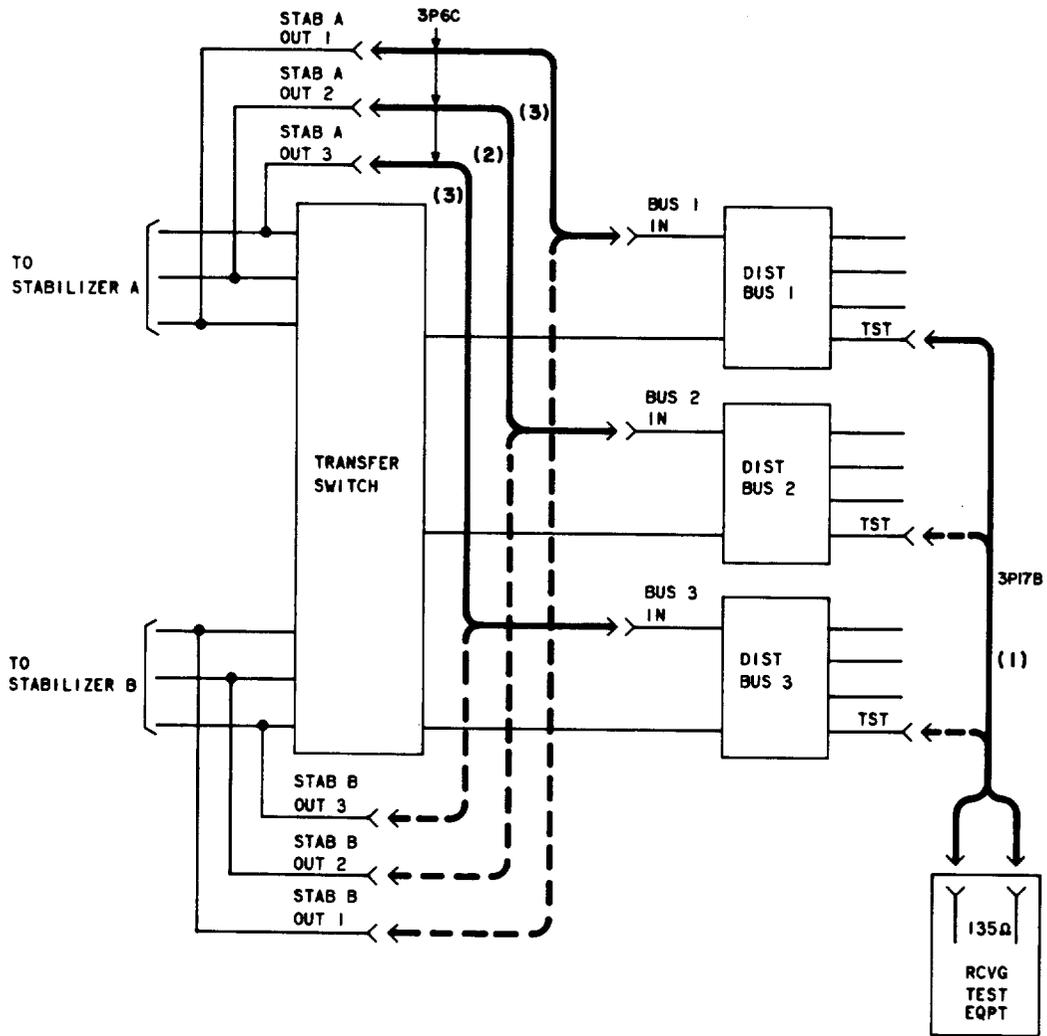

Fig. 4—Transfer Switch Replacement or Failure—Patching Procedures
3	Connect the RTE to the TST jack on the first J68909B distribution bus [patch (1), Fig. 4].
4	Make patches 1, 2, and 3 in Fig. 4 on the J68911B independent 512-kHz pilot supply. Note: Depending upon equipment requirements, the BUS 2 and BUS 3 positions may not be equipped. Patches 2 and 3 are required for all equipment requirements to insure proper termination of the stabilizer when the transfer switch is removed.
6	Verify that the RTE measures a 512-kHz signal at each distribution bus TST jack [patch (1), Fig. 4]. Requirement: -30.0 ± 0.5 dBm